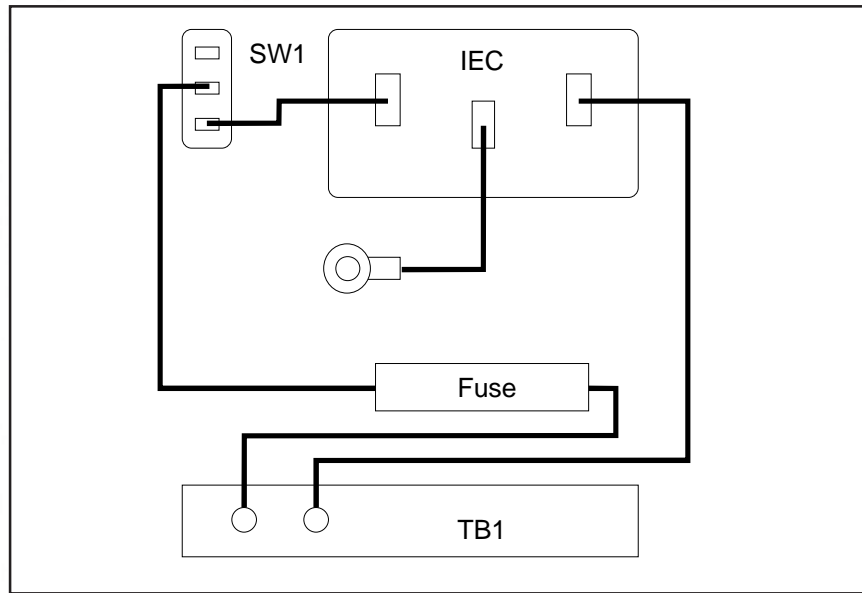

Figure 7. AC Power Connections
- 9) This is the final phase of the assembly process. Refer to figures 7, 8 and 9 for this phase.